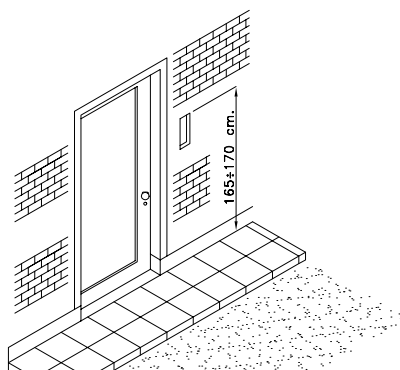

Fig. 2
- Set in box (1) at 165-170 cm. from ground level (fig. 2).
- Fix the covering frame (or rainshield Art. 872..) by using the four screws provided (3).
- Fix the lock plate (4) by using the two screws provided (5).
- Insert modules (9) into the slide guides of support (11) and insert microphone in the proper housing.
- Insert the hinge (6) into the proper guide of back box and fix by the two screws provided.
- Be sure that all connections are well made and power on the system: by pressing the call button (8) an electronic tone will be heard from the intercom; after few seconds the videophone will light up and a sharp view will appear. Test the speech and adjust volumes.
- If necessary adjust tilt position of CCD camera by acting on screw (10).
- Rotate the support (11) upward and fix to back box by using screw (12), ring spacer (15) and alan key (16).
- Where supplied, turnkey (13).